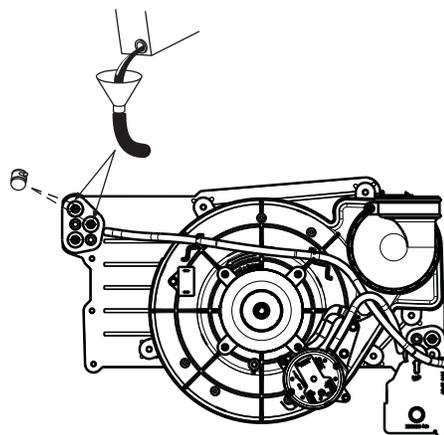

Fig. 64 - Priming Condensate Trap
4. Remove the top unused rubber plug from the port on the collector box opposite the condensate trap. See Fig. 64.
9. Remove the middle unused rubber plug from the port on the collector box opposite the condensate trap. See Fig. 64.